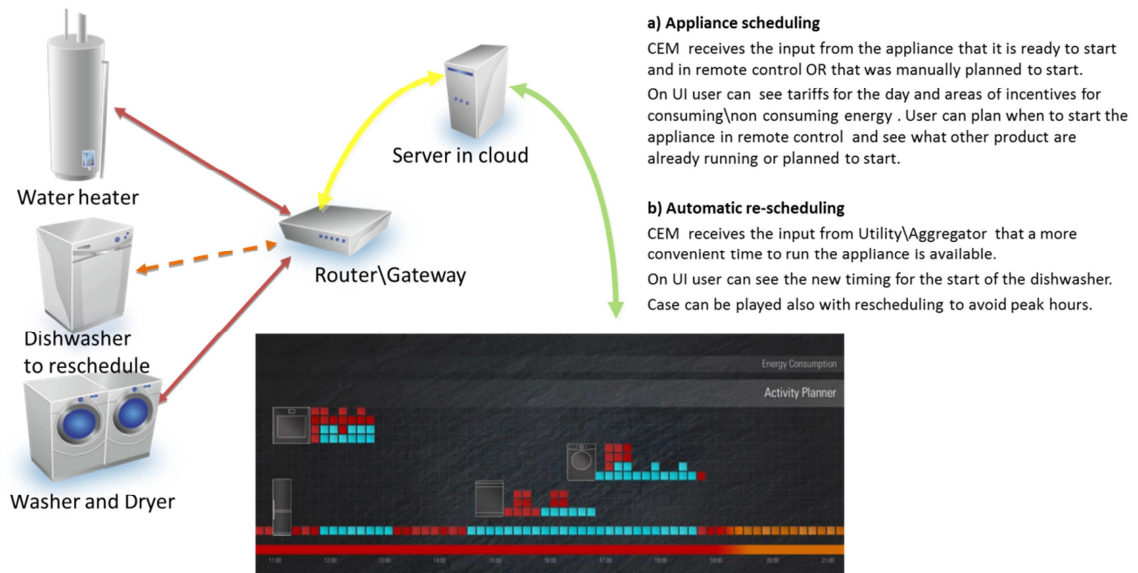

Figure 2- Appliance (re)scheduling
2. Schedule information exchanged in the use cases "Appliance scheduling through CEM and remote start" (see Figure 2.a) and "Automatic cycle rescheduling" (see Figure 2.b). The source used for defining the schedule information in SAREF4EE is the *General Message Structures, version 0.1.1, 2015-10-07*.